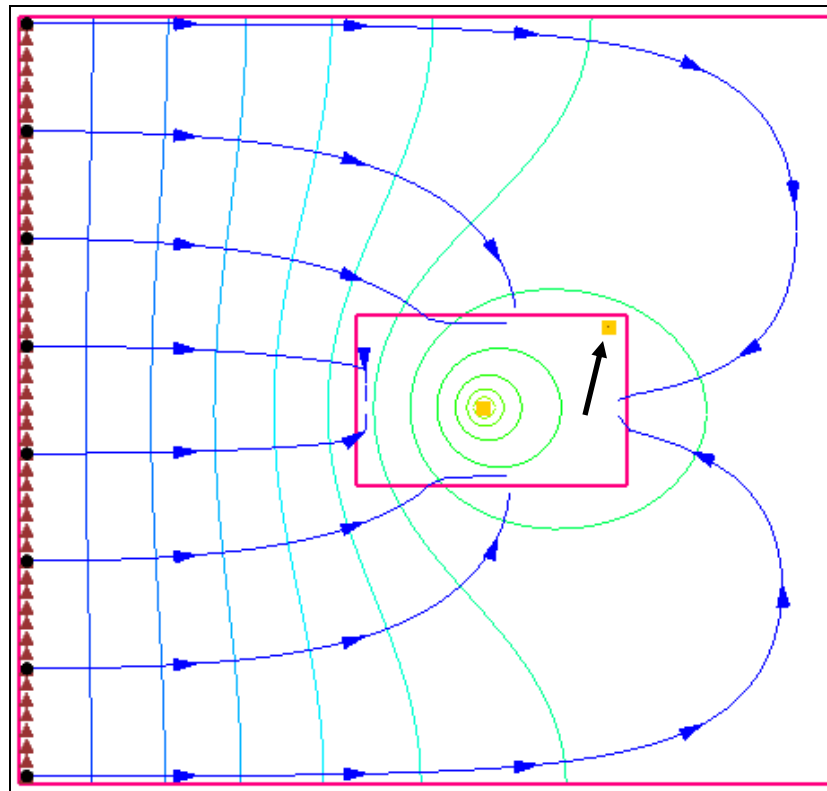

Figure 7 Creating a second well (indicated by arrow) in CHIL1
1. Using the **Select Cells**  tool, right-click somewhere in the upper right area of CHILD1 (the exact location is not important, see Figure 7 for approximate location) and select **Sources/Sinks...** to open the *MODFLOW Sources/Sinks – CHILD1* dialog.